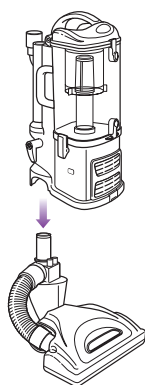

Fig. 9
- 2 Align the tube of the floor nozzle with the tube on the *Lift-Away*® canister and lower until you hear the two pieces click into place. (Fig. 9)